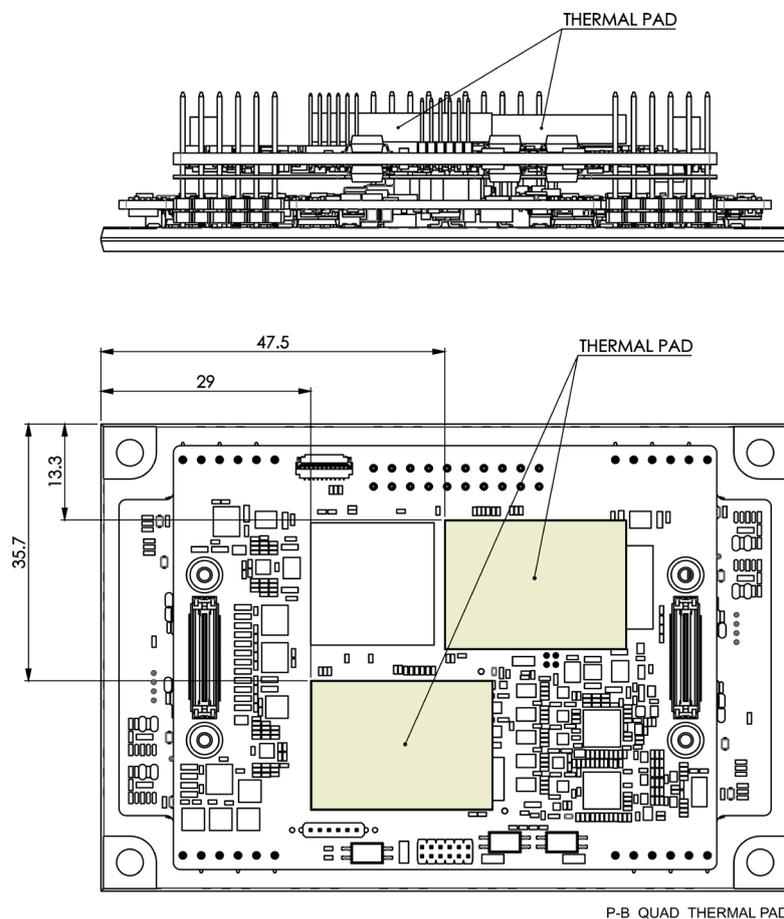

Figure 1: Aligning the thermal pads
To better absorb the heat from the surface of the Platinum Bee Quad, make sure the pads are covering the areas showing in the diagram, see Figure 1.
2. Place one thermal pad on one of the areas shown in the diagram of the Platinum Bee Quad. See Figure 1.